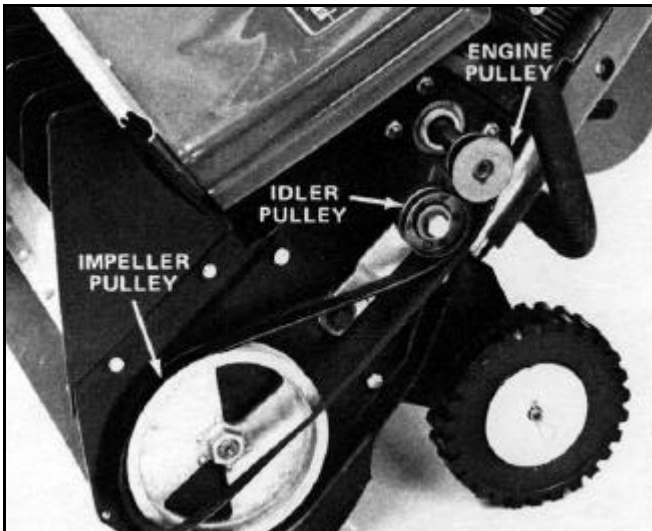

Figure 60
5. When installing the replacement belt, loop the belt around the engine pulley and under the idler pulley. Now start the belt around the impeller pulley (Figure 60).